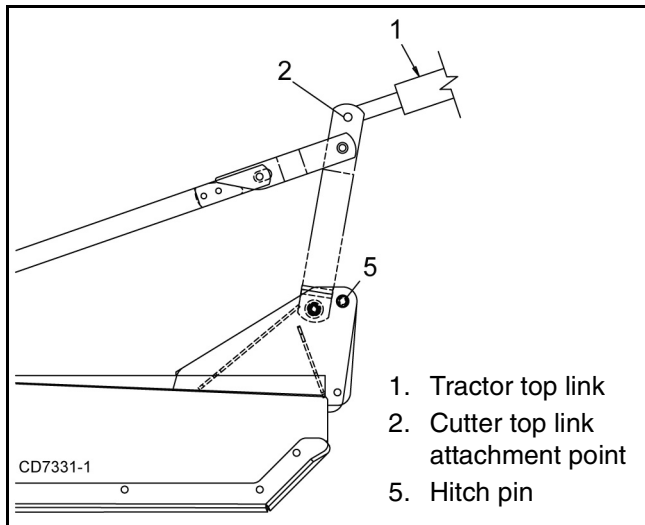

Figure 2. Cutter to Tractor Connection
1. Attach tractor 3-point lift arms to category I or category II (Cat II or Cat III for BB8400X) side of hitch pins (5) and secure.
2. Attach tractor top link (1) to cutter top link attachment point (2). See Figure 2.